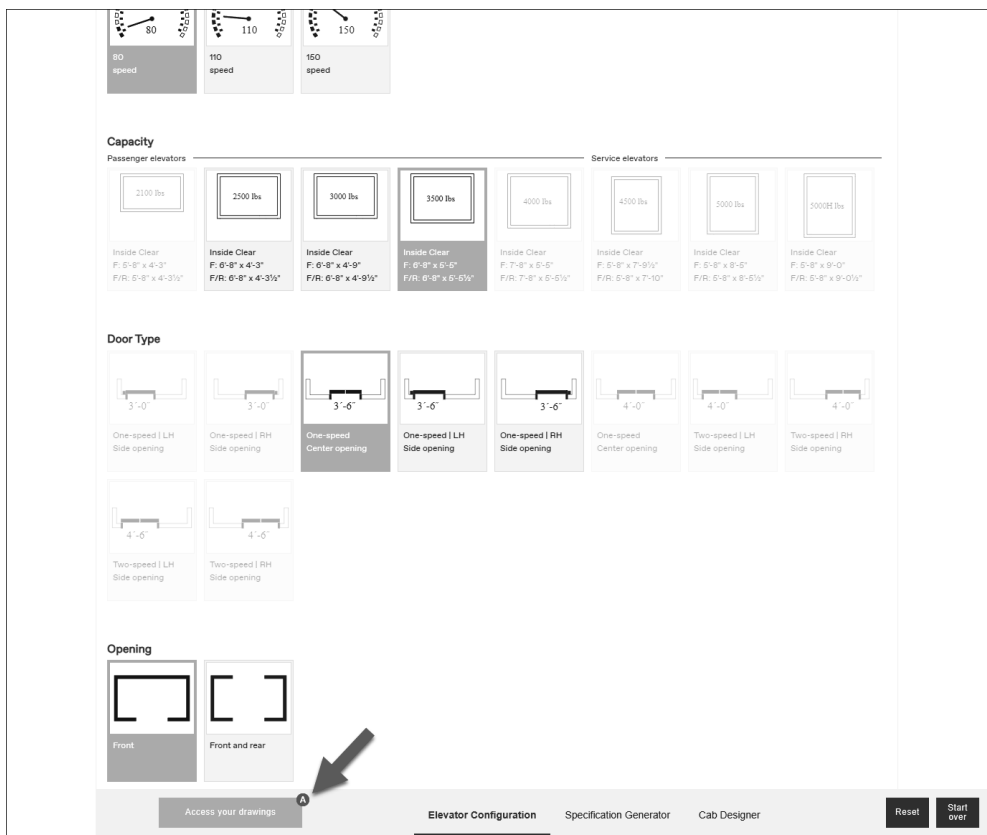

FIGURE 4-3.5 Elevator configuration wizard selections
7. Select the following options (Figure 4-3.5):
8. Click the **Access your drawings** button at the bottom of the view (Figure 4-3.5).